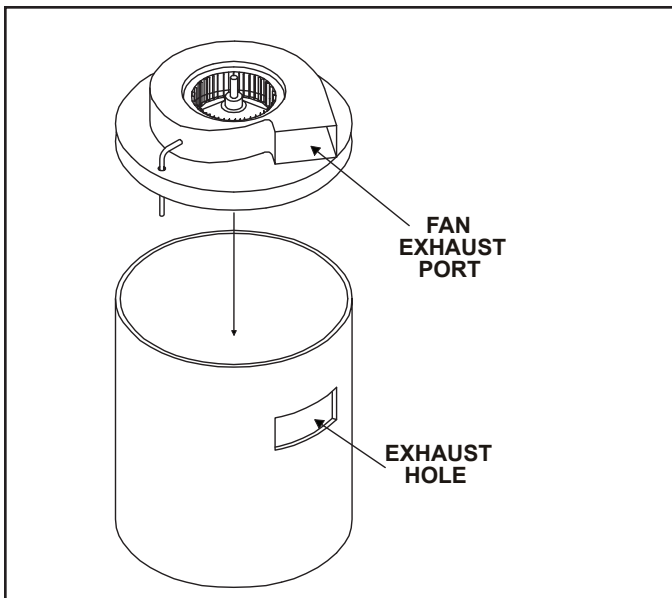

Figure 7.43
A. Slide the fan assembly into the 10-1/2" diameter collar, making sure that the exhaust port on the fan assembly lines up with the exhaust hole cut in the 10-1/2" diameter collar. See Figure 7.43.